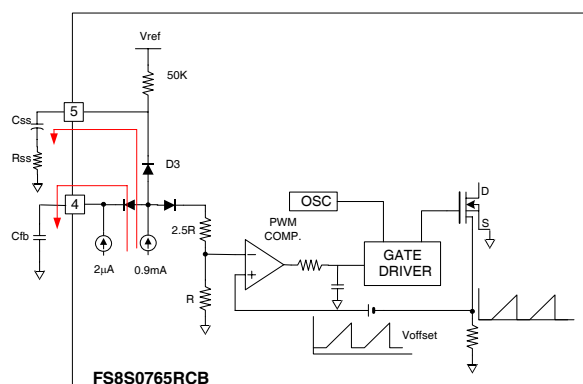

Figure 28. The circuit for the soft start
4. Soft Start: Figure 28 shows the soft-start circuit. During the initial start up, the 0.9 mA current source leaks out through C_{ss} and R_{ss} . As C_{ss} is charged, the leakage current decreases. By choosing much bigger C_{ss} than C_{fb} , it is possible to increase the feedback voltage slowly, forcing the SenseFET current to increase slowly. After C_{ss} reaches its steady state value, D3 is blocked and the soft switching circuit is decoupled from the feedback circuit. If the value of C_{ss} is too large, there is possibility that V_{fb} increases to 7.5V, activating the over load protection during soft start time. To avoid this situation, it is recommended that the value of C_{ss} should not exceed 100 times the C_{fb} .